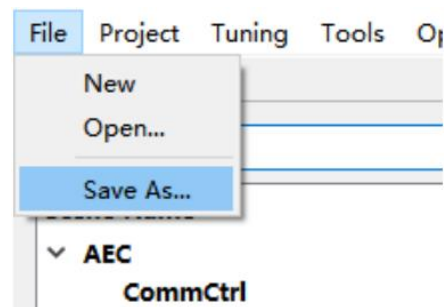

Figure 3-5-4
4. Click "**File**" - "**Save As...**", as shown in Figure 3-5-4 and 3-5-5, we can save the parameters to the scene parameters selected in step 2, or save as a new scene parameter, support saving only selected modules parameters, and display the modified parameters in the list on the right for reference.